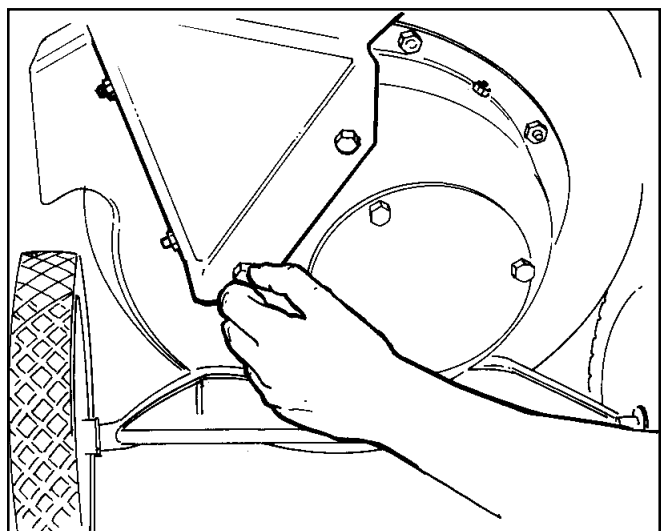

Figure 13. Removing Rotor Housing
3. Remove the rotor housing by unscrewing the 5/16–18 hex nuts that hold it to the fan housing. See Figure 13.